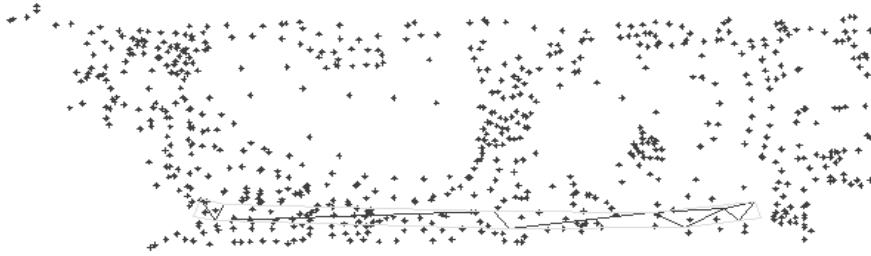

Figure 3-63 Points and the E Street surface after adding breaklines
10. Select the two polylines from the drawing and then press ENTER; the breaklines are added to the **E Street** surface, as shown in Figure 3-63.